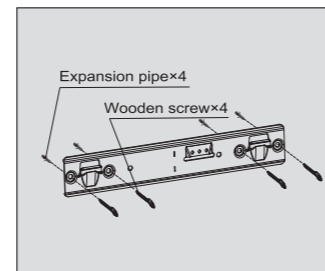
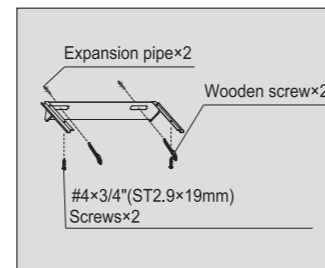

Figure 1
Figure 2
- Refer to installation diagram, set the right position on the wall to drill and then firmly imbed the expansion pipe. Insert  $\#10 \times 2 \frac{9}{16}$ " (ST5 $\times$ 65mm) wooden screws to tighten the fixed pothook and decorative cover pothook; then use two  $\#4 \times \frac{3}{4}$ " (ST2.9 $\times$ 19mm) Screws to fix the decorative cover on the suspended ceiling (see Fig 1 and Fig 2).